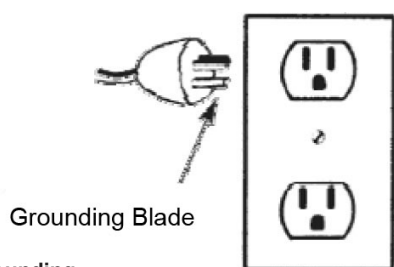

Figure 1 - Grounding
17. This equipment is only for use on 115 volt (single phase) and is equipped with an approved 3-conductor cord and 3-prong, grounding-type plug (See Figure 1). To reduce the risk of electric shock, the motor must be securely and adequately grounded. This can be accomplished by either: 1) Inserting plug directly into a properly installed and grounded 3-prong grounding-type receptacle (See Figure 1); 2) Permanently wiring the unit with a grounded, metal raceway system; 3) Using a separate ground wire connected to the bar metal of the frame; or 4) Other suitable means.